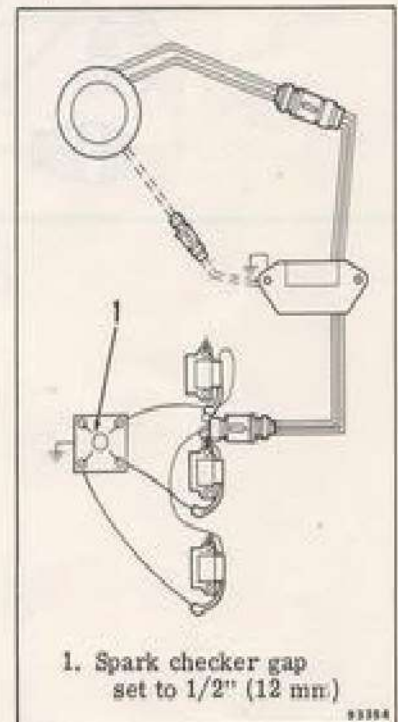

Figure 4-18. Checking Spark
- b. Adjust the air gap of the spark tester to  $1/2$ " (12 mm), and connect the tester leads to the high tension leads. Secure the other end of the spark tester to a clean engine ground. See Figure 4-18.